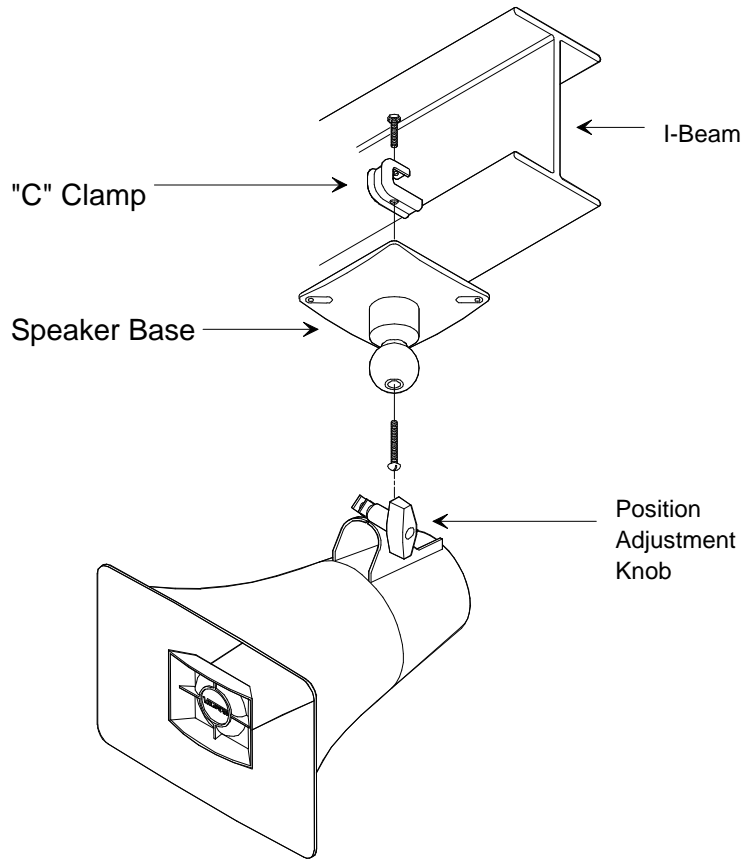

Figure 1 - Mounting to a Beam with a "C" Clamp
- A "C" clamp is provided with the ringer to allow mounting to a beam. Place the bolt through the hole in the bottom of the base to secure the "C" clamp to the beam (see Figure 1). It is suggested that the horn be mounted to the underside of the "I" beam so as to provide the maximum of positioning adjustments.
The V-9947A may be rotated or moved up and down to obtain the desired position by loosening the position adjustment knob at the bottom of the unit approximately one turn (see Figures 1 and 2). Make required adjustment and re-tighten the knob.